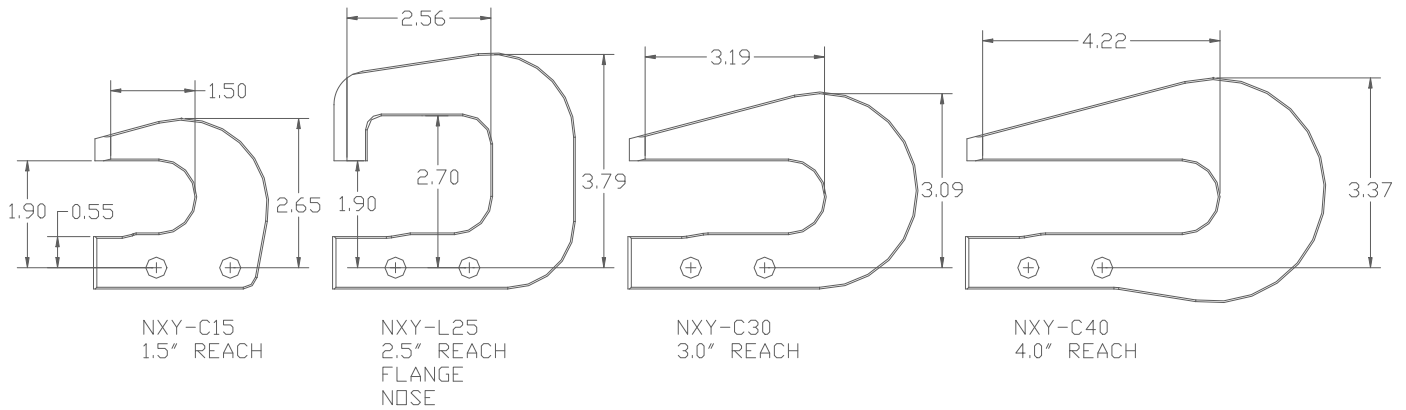

FIGURE 3 – LIGHT-DUTY YOKES
- 4.1 Refer to Figure 3 for light duty yokes, suitable for the NXC-4 and at lighter force settings the NXC-6.